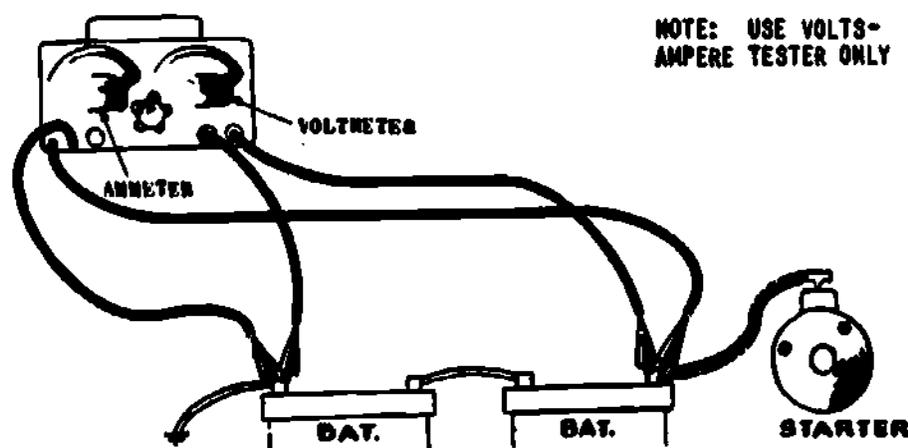

Fig 1-14. Starting motor amperage draw test.
(a) Starting motor amperage draw test (fig 1-14). The purpose of the test is to determine the amperage draw of the starting motor. The engine must be at normal operating temperature so that the cranking load will be normal. Note in the illustration that the tester leads are connected so that if the tester controls are turned to a certain position there will be a direct short across the battery.
- Step 2. Connect the test leads as illustrated in figure 1-14.